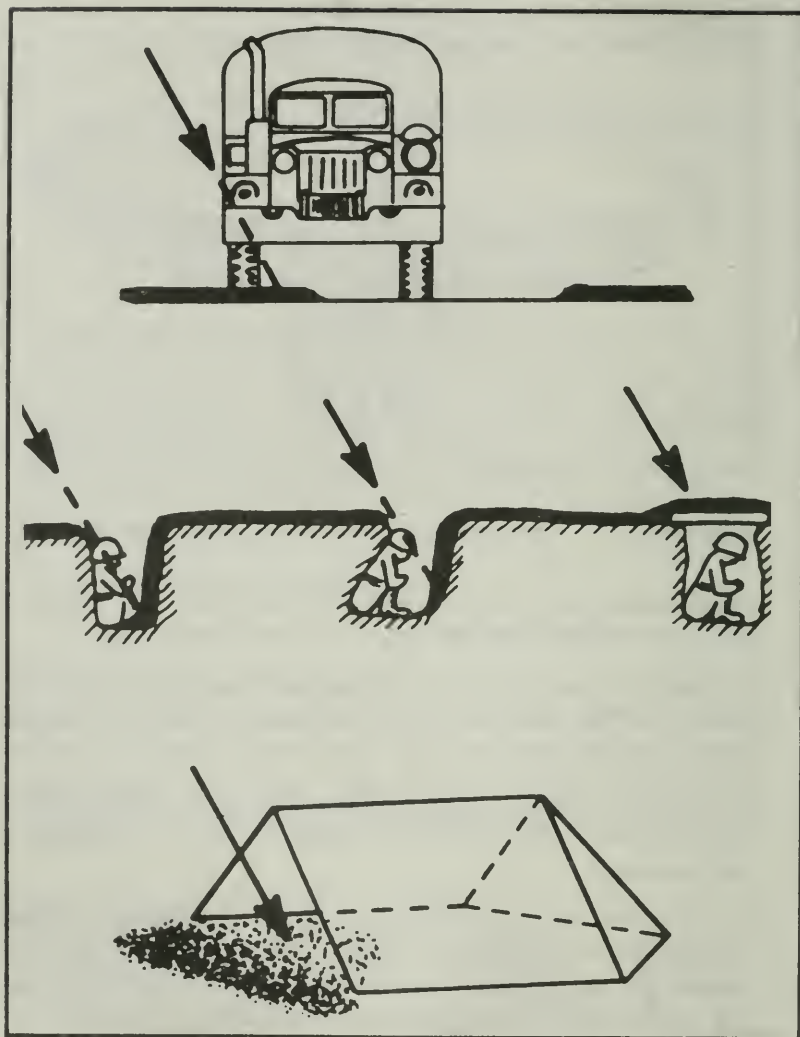

Figure 277. Examples of protective cover against liquid chemical attack.
4. Take cover, using whatever is readily available to decrease the amount of agent contact and decontaminate exposed skin as necessary. (See the task Decontaminate Your Skin and Personal Equipment, task number 031-503-1007.). Figures 277 and 278 show